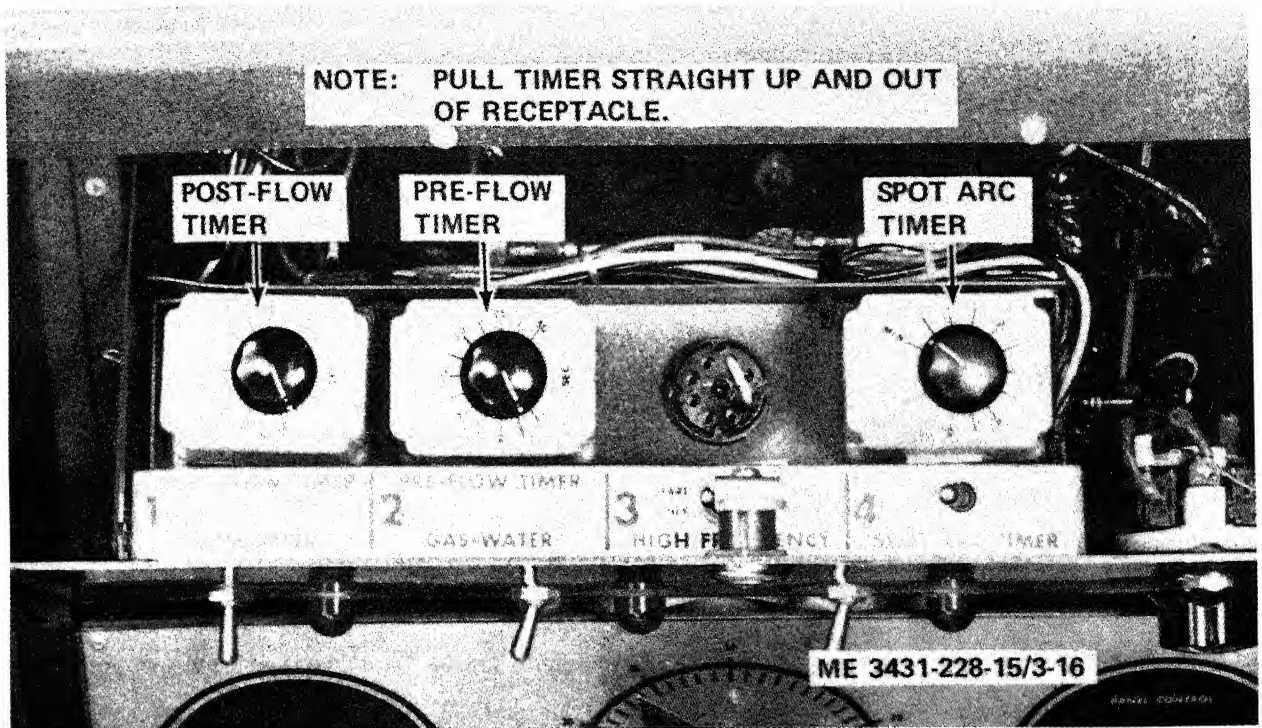

Figure 3-16. Timers, removal and installation.
a. Removal. Refer to figure 3-16 and remove the timers.
b. Installation. Refer to figure 3-16 and install the timers.